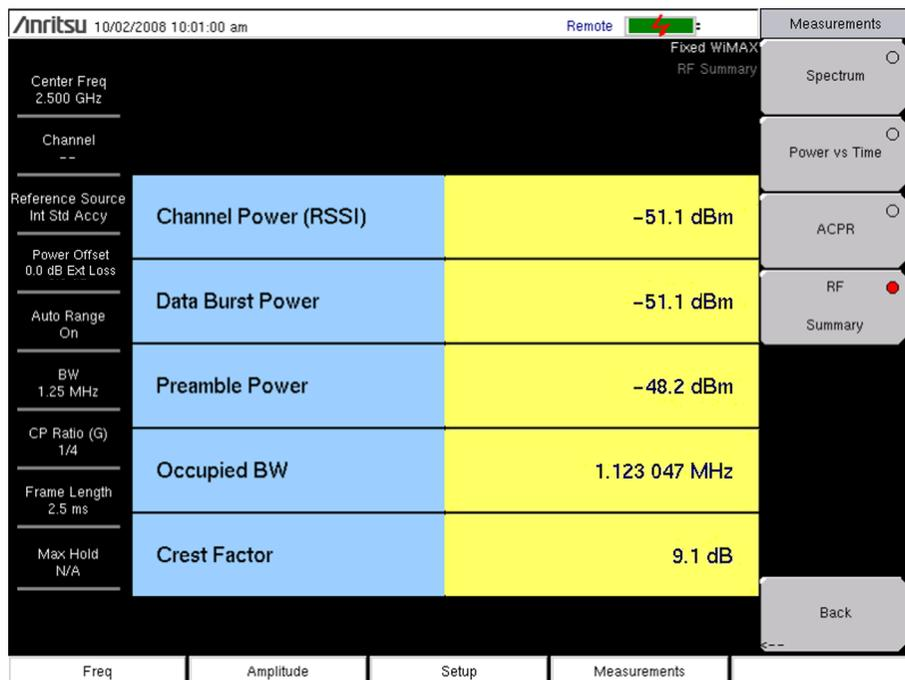

Figure 2-4. RF Summary
4. Press the RF Summary submenu key to activate the measurement. The sample image in Figure 2-4 may differ from any image on your instrument.